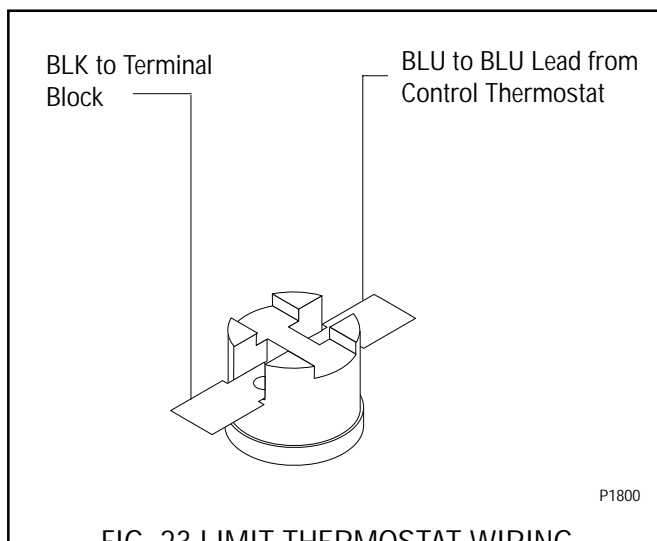

FIG. 23 LIMIT THERMOSTAT WIRING
4. Refer to FIG. 23 when reconnecting the wires.